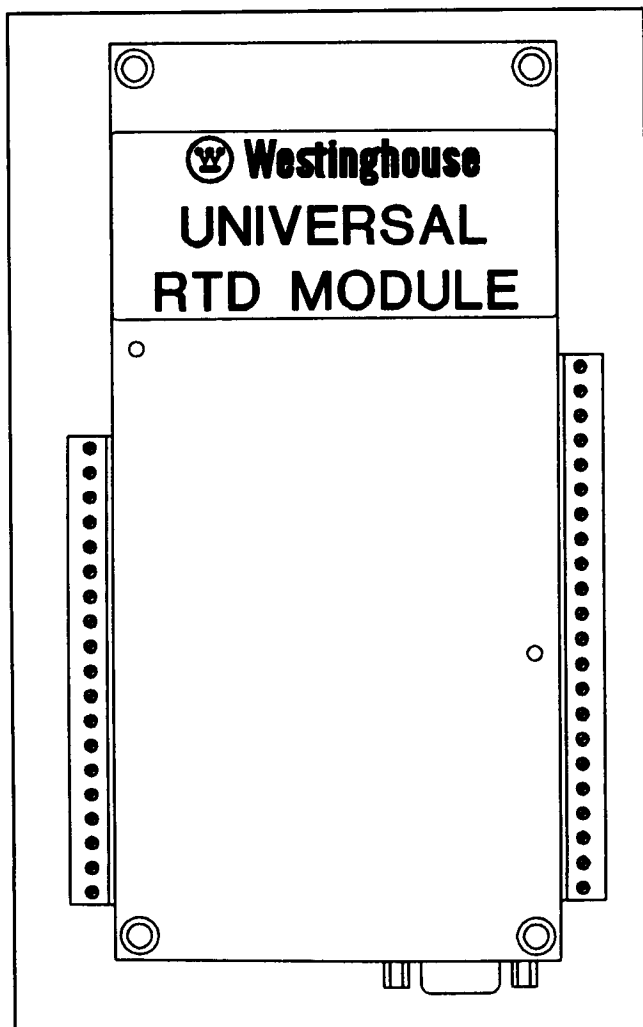

Figure 2.3 — Universal RTD Module
2.1.3.1 RTD Module Option — The Universal RTD Module is a separately purchased optional device (see Figure 2.3) which interfaces with the motor RTDs and the IQ-1000 II. The RTD inputs connect to the terminal blocks of the RTD Module as described in Paragraph 5.1.2 and the RTD itself connects to the IQ-1000 II through the fiber optic connector and/or the communications port.